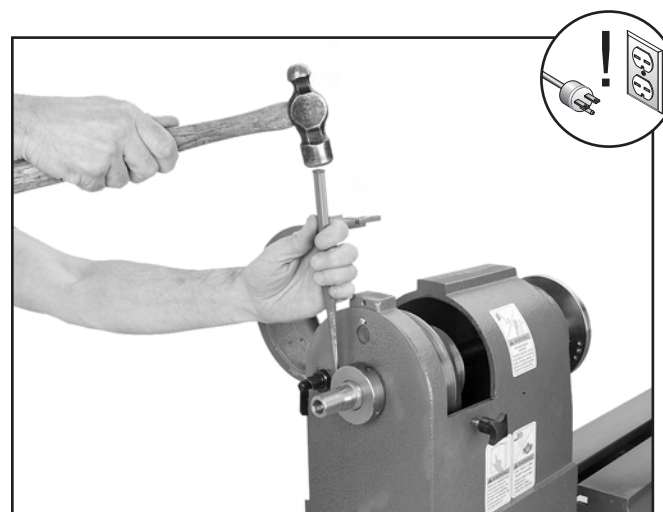

Figure 59. Unseating outboard spanner nut.
4. Loosen the set screws on the spanner nut, use a hammer and a punch to knock it loose, as shown in **Figure 59**, then remove it.